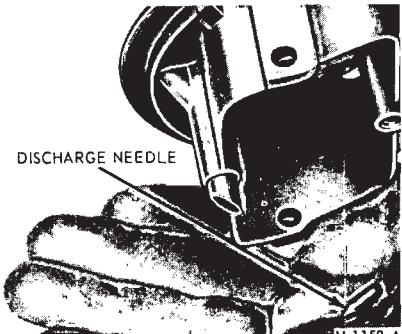

FIG. 14—Accelerating Pump Discharge Needle Removal
- Remove the accelerating pump discharge nozzle screw. Lift the pump discharge nozzle and gaskets out of the main body. Invert the main body and let the accelerating pump discharge needle fall into the hand (Fig. 14).